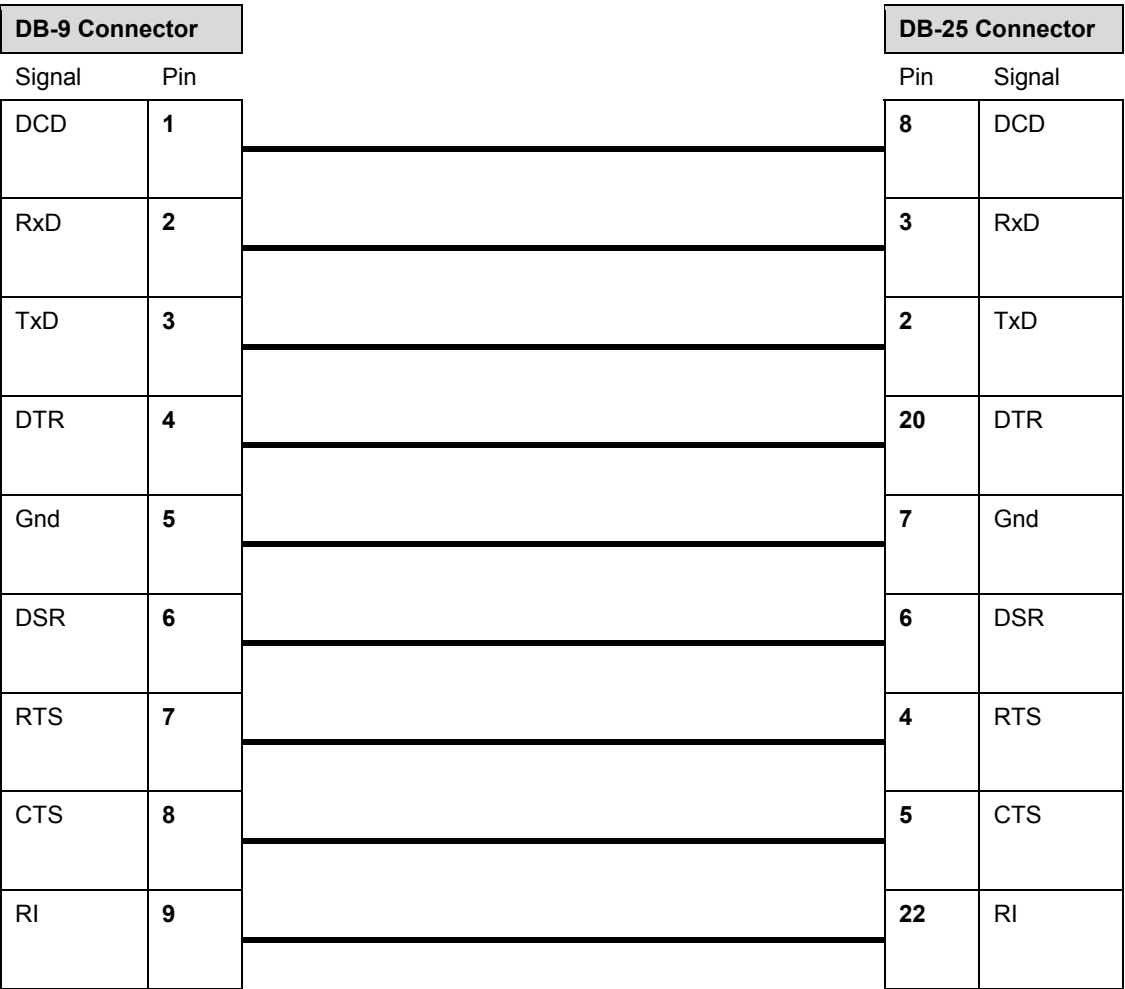

Figure 86: Modem RS-232 Cable Wiring
- Null-modem RS-232 cable (*Figure 86*)